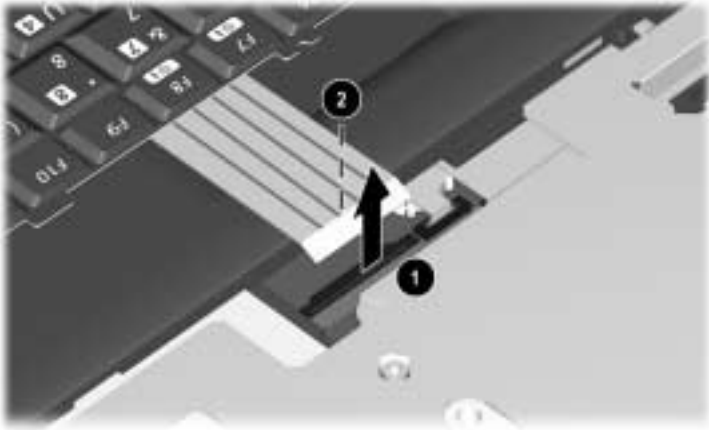

Figure 5-5: Disconnecting the Keyboard Cable
5. Release the zero insertion force (ZIF) connector to which the keyboard cable is connected ❶ and disconnect the keyboard cable from the system board ❷ (Figure 5-5).